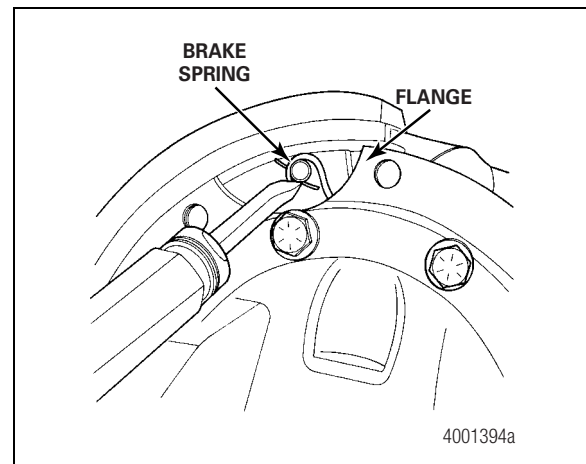

Figure 5.22
8. Place the brake shoes against the cam. Use brake spring pliers to install the return spring onto the shoes. Verify that the rollers in the brake shoes are against the low points of the cam. Figure 5.22.